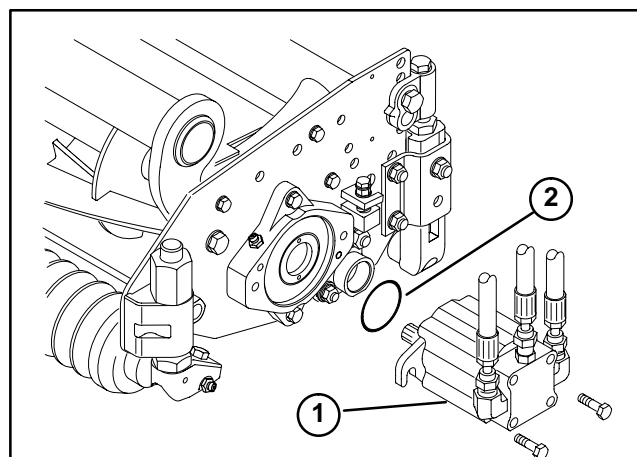

Figure 33
12. Mount the motor to the drive end of the cutting unit and secure with two capscrews provided (Fig. 33).